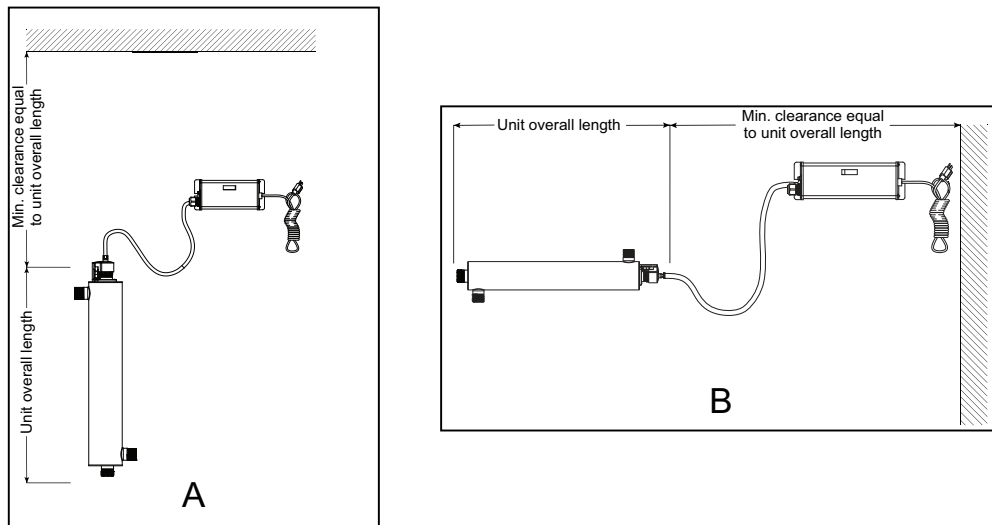

Figure 4 Installation - Vertical and Horizontal
2. Select a suitable location for the UV system and its related components. As it is recommended to install a GFCI, make sure that this is taken into consideration prior to any installation. The system can either be installed vertically (inlet port at the bottom) as shown in Figure 4 A, or horizontally as shown in Figure 4 B. However, the vertical installation is the most preferred method. When selecting a mounting location, leave enough space to allow the removal of the UV lamp and/or quartz sleeve (typically leave a space equal to the size of the chamber itself).